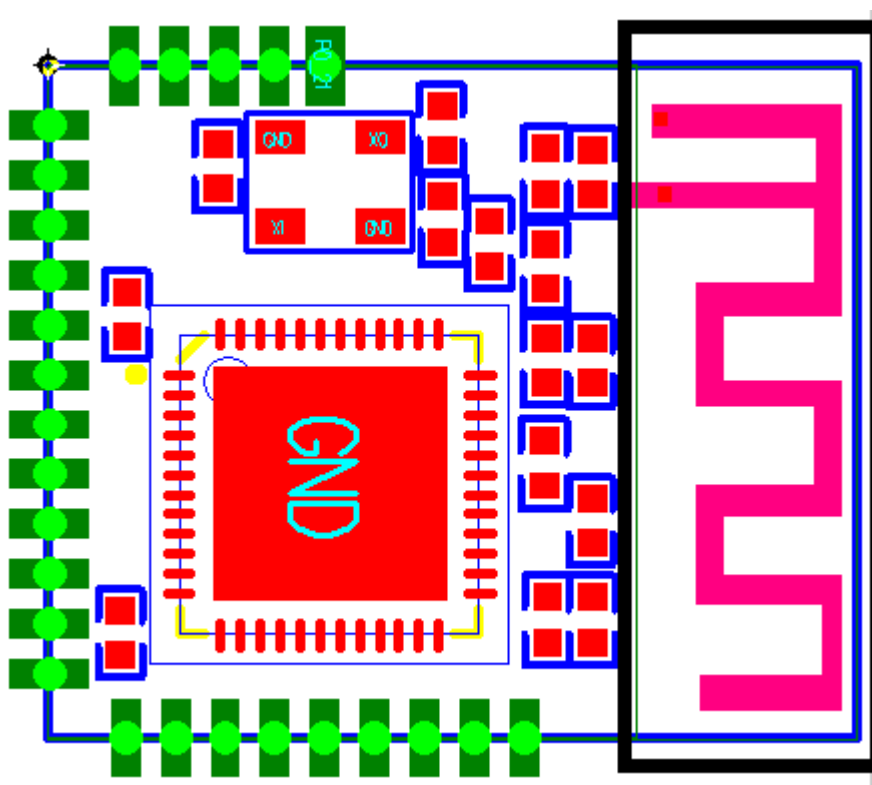

Figure 3
3. Hollowing out the black pane part (figure 3) to make less S11 interference.